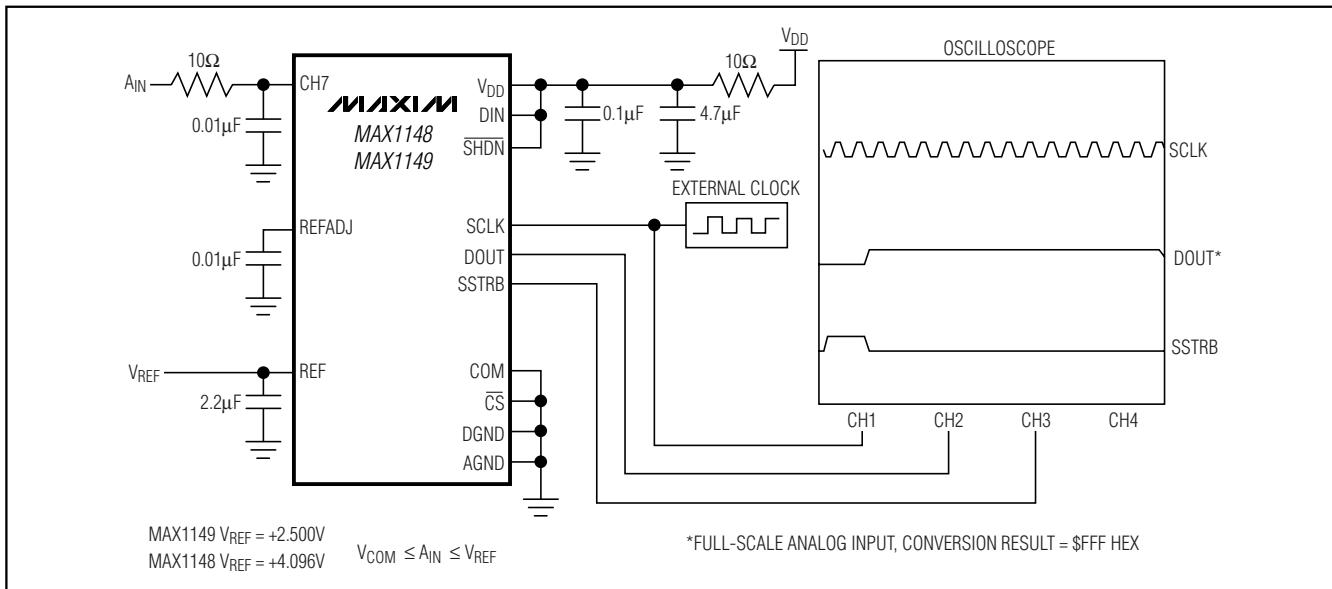
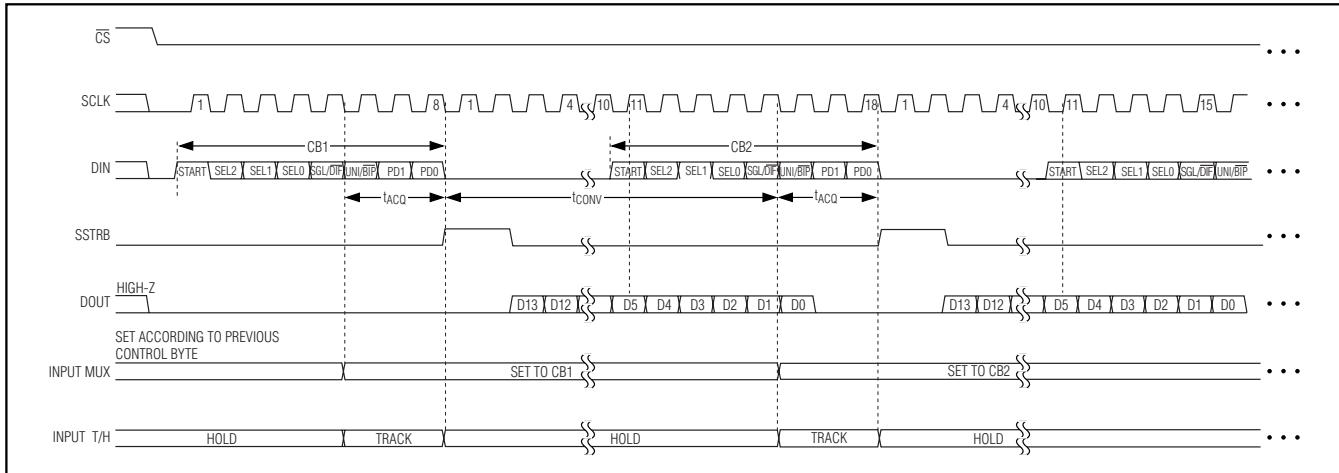

Figure 7. Quick-Look Circuit
Figure 10. External Clock Mode—18 Clocks/Conversion Timing
Use the circuit of Figure 7 to quickly evaluate the MAX1148/MAX1149. The MAX1148/MAX1149 require a control byte to be written to DIN using SCLK before each conversion. Connecting DIN to V_{DD} and clocking SCLK feeds in a control byte of \$FF HEX (see Table 1). Trigger single-ended unipolar conversions on CH7 in external clock mode without powering down between conversions. In external clock mode, the SSTRB output pulses high for two clock periods before the MSB of the 14-bit conversion result is shifted out of DOUT. Varying the analog input to CH7 alters the sequence of bits from DOUT. A total of 18 clock cycles are required per conversion (Figure 10). All transitions of the SSTRB and DOUT outputs occur on the falling edge of SCLK.
- 2) The first high bit clocked into DIN after bit 5 of a conversion in progress is clocked onto DOUT (Figures 10 and 11).
The fastest the MAX1146–MAX1149 can run with \overline{CS} held low between conversions is 18 clocks per conversion. Figures 10 and 11 show the serial-interface timing necessary to perform a conversion every 18 SCLK cycles.